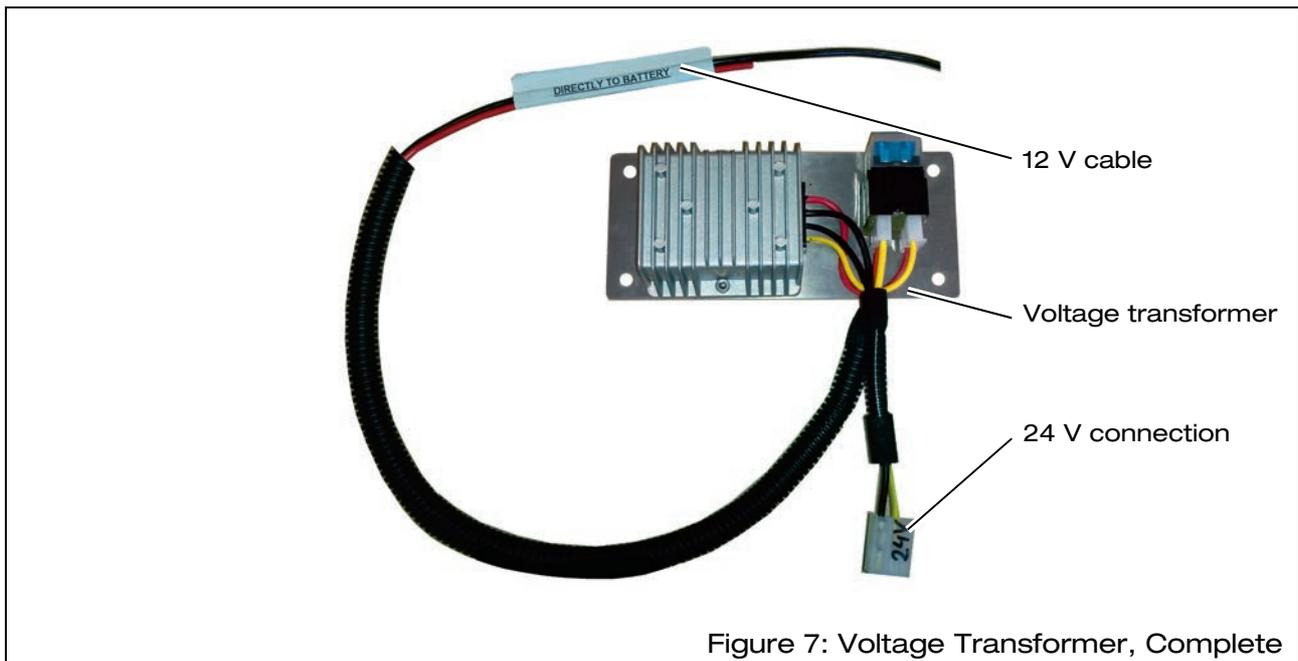

Figure 7: Voltage Transformer, Complete
- ⇒ Fit the voltage transformer (see Figure 7).